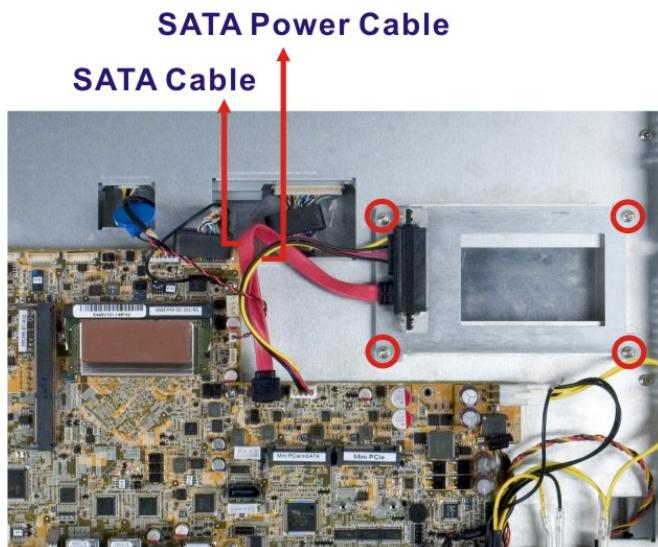

Figure 3-5: PPC-F17B-BTi HDD Bracket Retention Screws
Step 2: Remove the HDD bracket from the PPC-F12B/15B/17B/19B-BTi. The HDD bracket is secured on the panel PC with four retention screws (**Figure 3-5**).